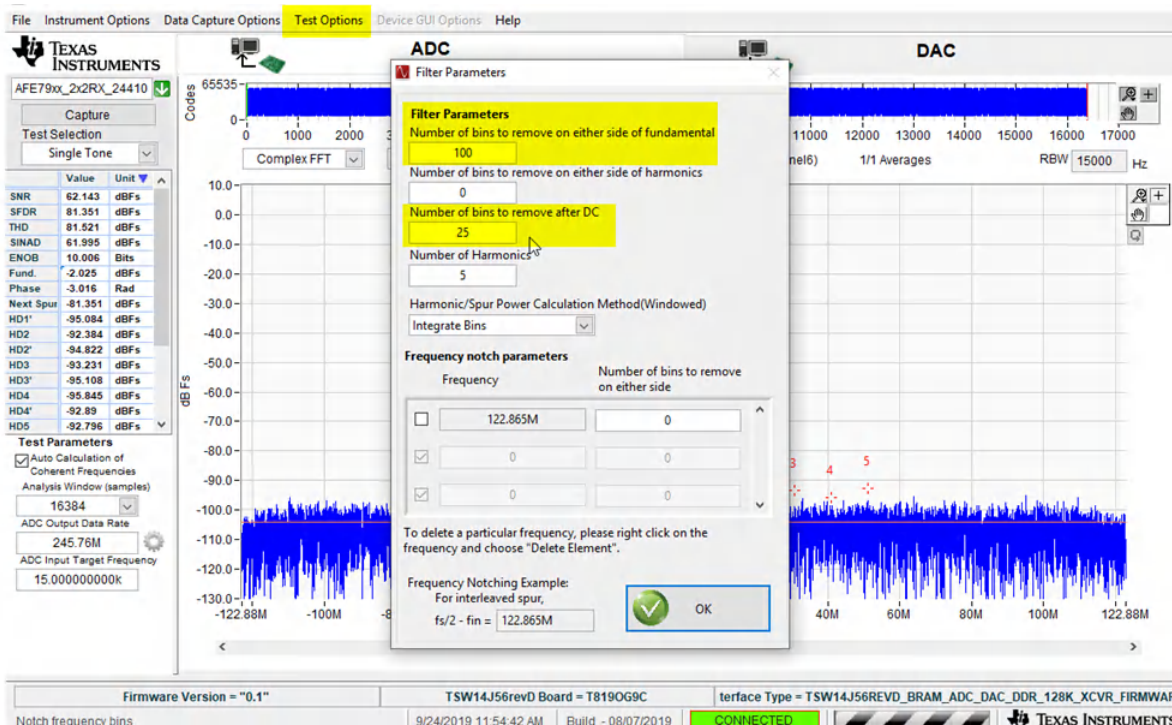

Figure 4-9. HSDC PRO ADC Performance FFT Binning Configuration
1. Before starting the RXADC and FBADC performance capture, set up the HSDC PRO test option. Go to *Test Options* to enter the *Filter Parameters* menu. By default, there are 25 bins to remove on either side of fundamental and 25 bins near dc to remove. Per Figure 4-9, change the number of bins to remove on either side of fundamental to 100 bins.